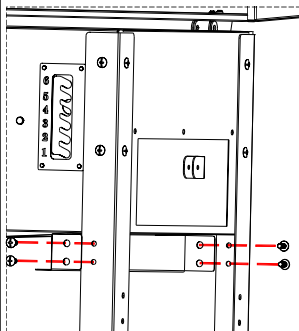

Fig. 10A
*Locate:* Side Drip Tray Guides, Center Drip Tray Guide and (10) M6x15 bolts.
Place side drip tray guide inside the right legs as shown in Figure 10A and attach using (4) M6x15 bolts.